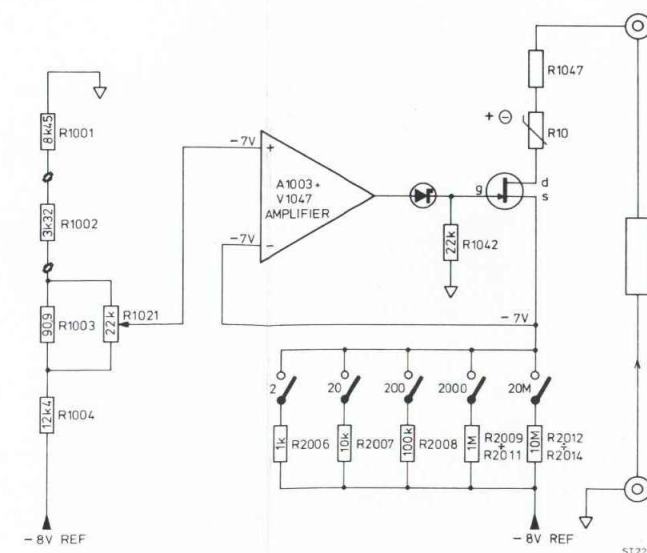

Fig. 23. Current source
7.2.5. Resistance measurements (Fig. 23)
7.2.9. Current source (Fig. 23)